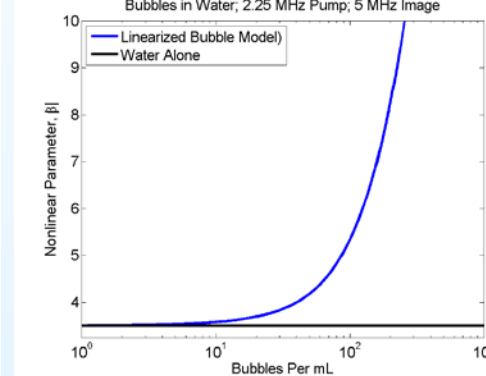

Figure 3. Modeling of bubble detection limit
- Modeling predicts this is a hard physical limit below this the inherent nonlinearity of the host fluid masks the microbubble nonlinear contribution (Figure 3)